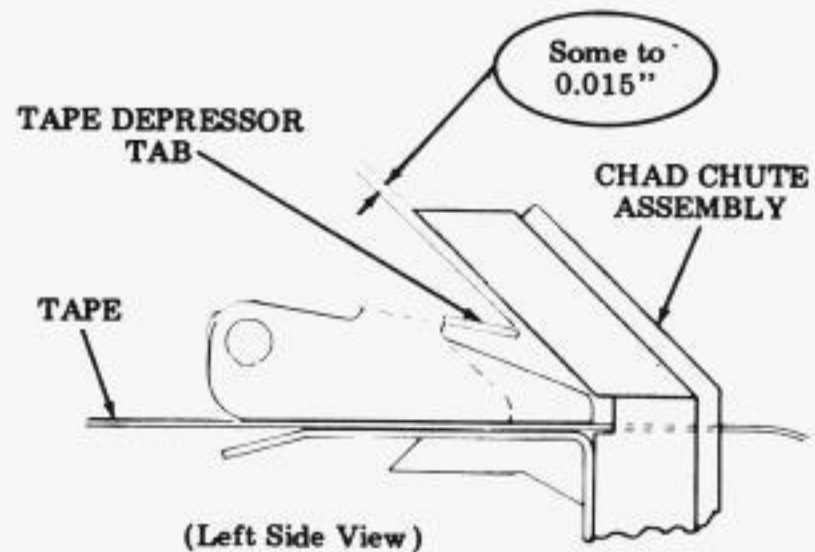

Figure 6 - Folded Tape Guide Adjustment
2.22 The adjustments (Figure 6), apply to tape punches equipped with either the early design or late design chad chute.